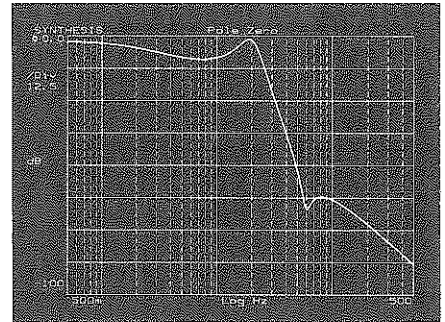

Figure 10-2
7. **Create Response** Select the **CREATE TRACE** softkey to activate the frequency response synthesis; the message "SYNTHESIS IN PROGRESS" is displayed. The results for this example are shown in Figure 10-2.
A quick inspection with the Y-marker shows that the passband flatness is not within the specifications due to the peak at 20 Hz (as shown in Figure 10-2). One possible solution is to move one of the complex pole pairs farther from the  $j\omega$  axis: